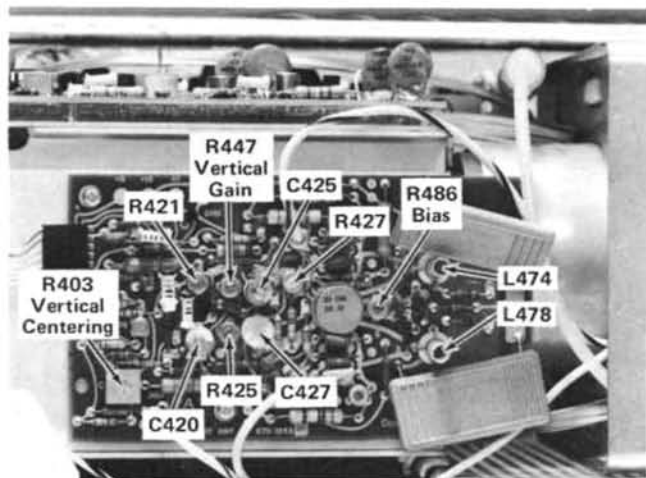

Fig. 2-3. Location of Vertical System adjustments (Vertical Output board).
- ADJUST—Bias R486 for maximum gain. (See Fig. 2-3.)
- ADJUST—Vertical Centering adjustment R403 (see Fig. 2-3) to position the trace to the center horizontal line.
- ADJUST—Vertical Gain adjustment R447 (see Fig. 2-3) for exactly six divisions of deflection between the second and sixth traces.
d. Adjust—High-frequency compensation as given in Table 2-2 for optimum square leading corner and flat top with minimum aberrations within limits given in part c. Location of adjustments is shown in Fig. 2-3. Use the low capacitance screwdriver to adjust the variable capacitors. Repeat the complete adjustment procedure several times to obtain optimum adjustment.